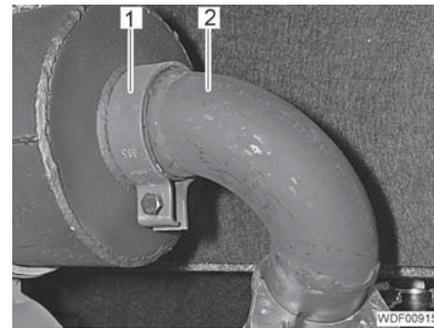

Fig. 98 Connection to flexi-pipe
- Release the clamp (Fig. 98,1).
- Pull off the connecting piece (Fig. 98,2).
- Attach the connection piece (Fig. 98,2) with clamp (Fig. 98,1) from the outside to the muffler.
- Tighten the clamp (Fig. 98,1).